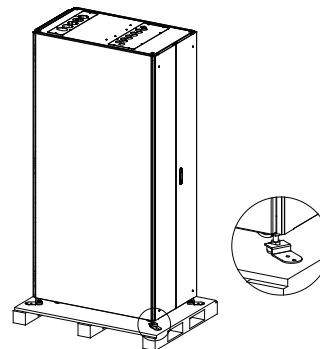

Fig. 2-4
- 4.Disassemble the screws which used to fix the mounting brackets by wrench, and adjust the height of adjustable feet(Fig.2-4);